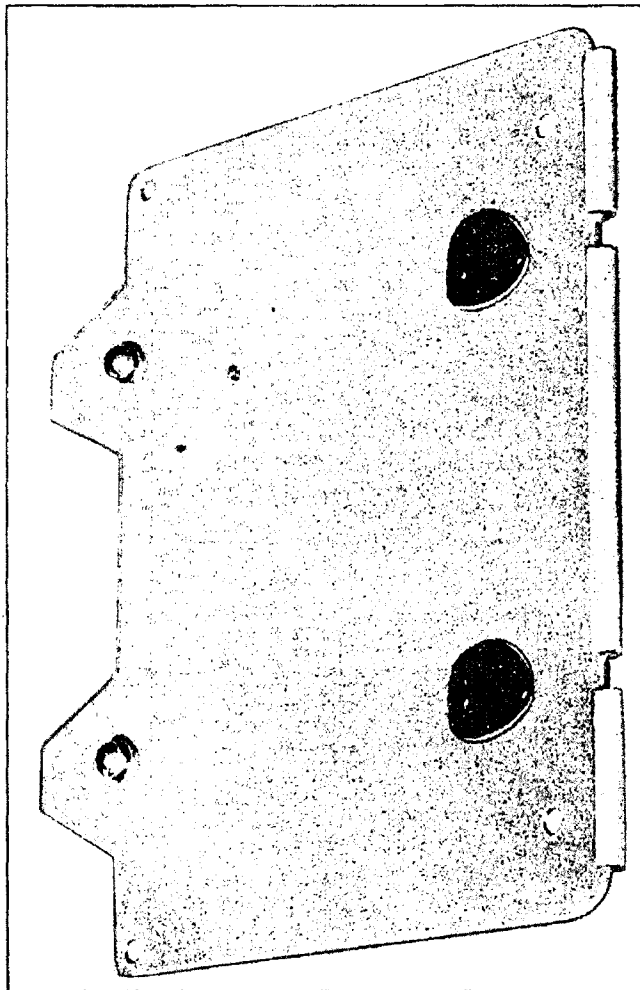

Figure 6. Control Box Mount FT-240-A
(5) CONTROL BOX.—Slide Control Box C-118/ARC-3 under the flange on one side of the Mount FT-240-A. (See fig. 6.) Align the two holes in the